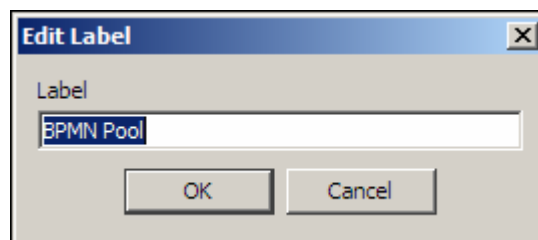

Figure 7.24: Edit Label
2. The Edit Label screen is displayed (see Figure 7.24).